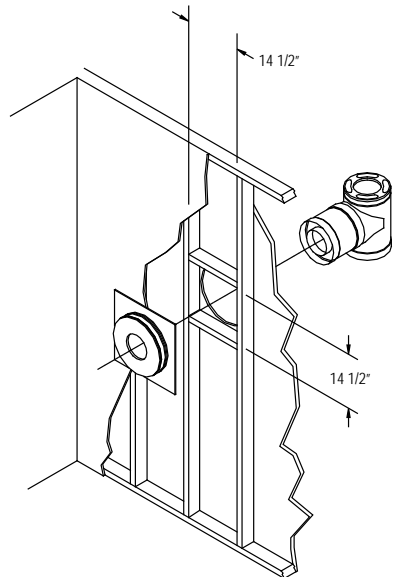

Figure 25
2. Cut and Frame Opening: Cut 14-1/4 inch diameter holes in the inner and outer walls. The center of these holes should be aligned with the center of the stove's flue outlet collar. For new construction, prior to sheetrock or other covering of the wall studs is applied, frame a square opening between the studs, as specified in Table 2. (**Figure 25**).